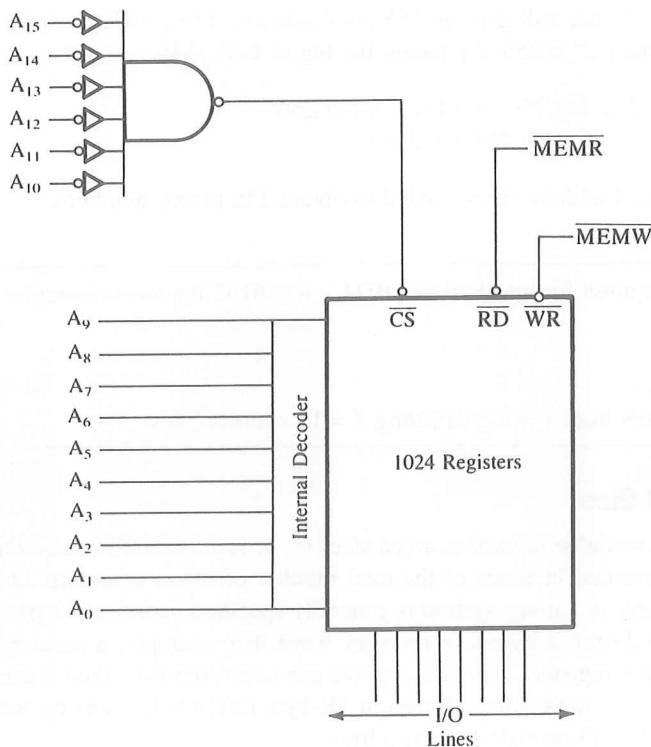

FIGURE 3.11
Explain the memory address range of 1K (1024×8) memory shown in Figure 3.11 and explain the changes in the addresses if the hardware of the CS line is modified.
The memory chip has 1024 registers; therefore 10 address lines ($A_9 - A_0$) are required to identify the registers. The remaining six address lines ($A_{15} - A_{10}$) of the microprocessor are used for the Chip Select (CS) signal. In Figure 3.11, the memory chip is enabled when the address lines $A_{15} - A_{10}$ are at logic 0. The address lines $A_9 - A_0$ can assume any address of the 1024 registers, starting from all 0s to all 1s, as shown next.
By combining the high-order and the low-order address lines, we can specify the complete memory address range of a given chip. As explained in the previous example, the memory addresses of the 1K chip in Figure 3.11 can be changed to any other lo-